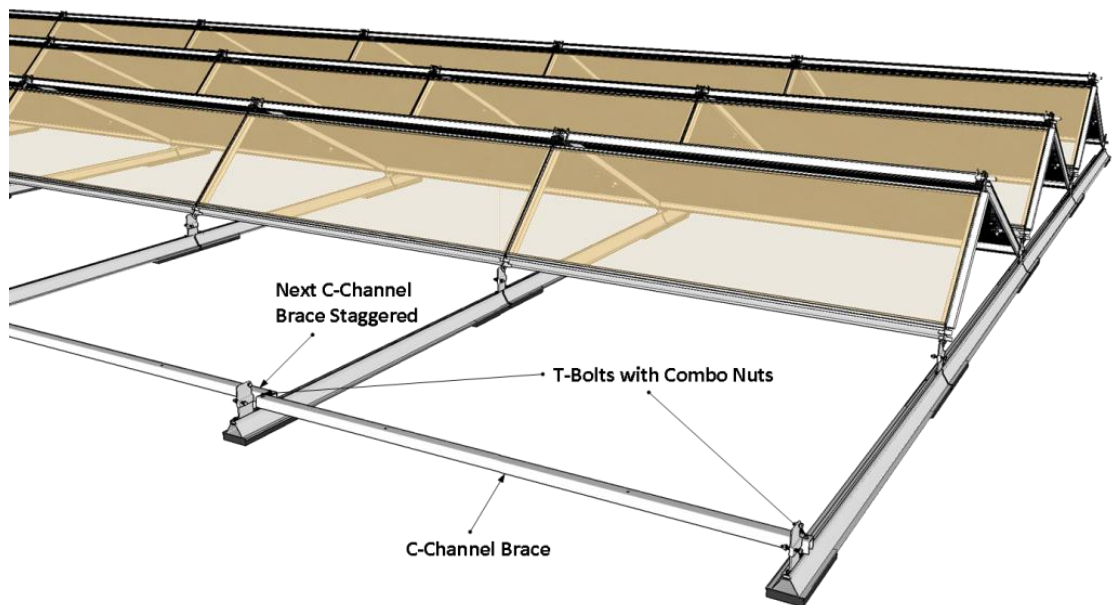

Figure 15D
- Just to the south of that final fin, install C-Channel Braces across each rail pair. Use a 1/4"-20 x 2" Stainless Steel T Bolt inserted into the rail slot and a 1/4"-20 Stainless Steel Combination Hex Nut with Star Washer to secure each end of the c-channel brace. Tighten the combination hex nut with star washer to 6 ft-lbs (8N-m). Stagger the braces from one rail pair to the next. See Figure 15D. **Install a c-channel brace on every northernmost rail pair in every array section.**